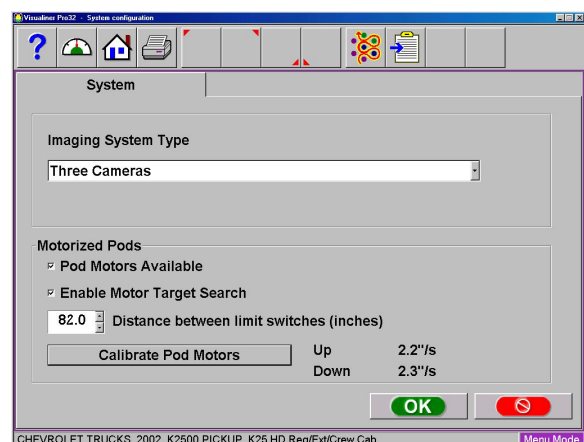

Figure 20
8. Make sure that the Imaging System Type is set to Three Cameras. (Figure 20)